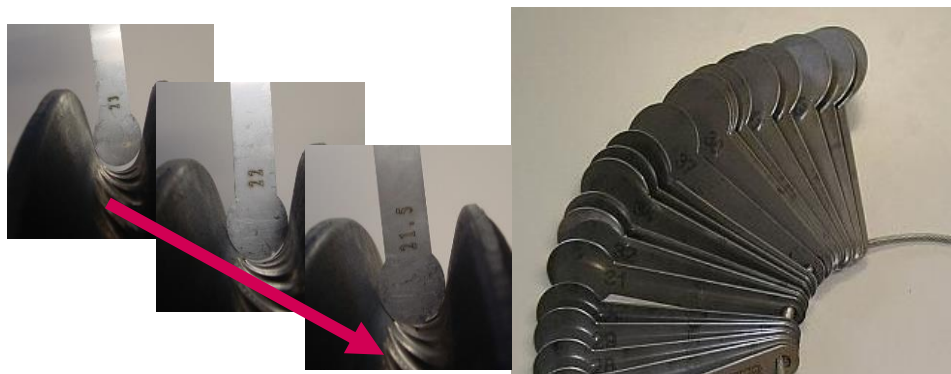

Fig. 6-62 Examples of radius detection of pulley groove arc
- The rope groove radius detection method see Fig. 6-62